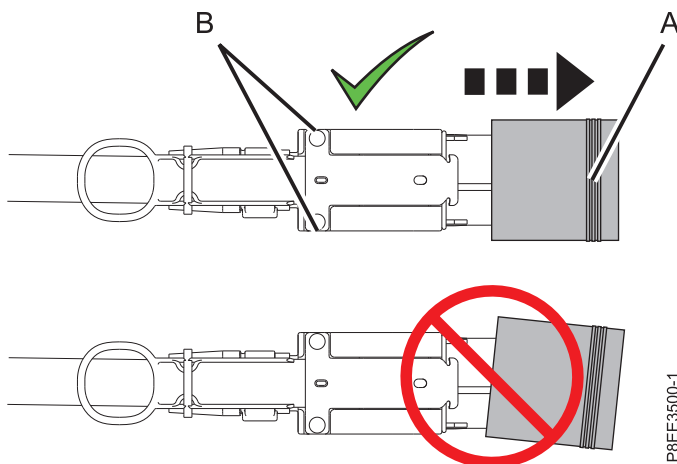

Figure 18. Removing the protective cover from the connector on the expansion drawer cable
- b. Remove the protective cover from the connector on the expansion drawer cable. Hold the cable housing (**B**) on the short edges with the index finger and thumb on one hand. Then, grasping the cover on the long edge (**A**) with the index finger and thumb on the other hand, pull the protective cover off. See Figure 18.